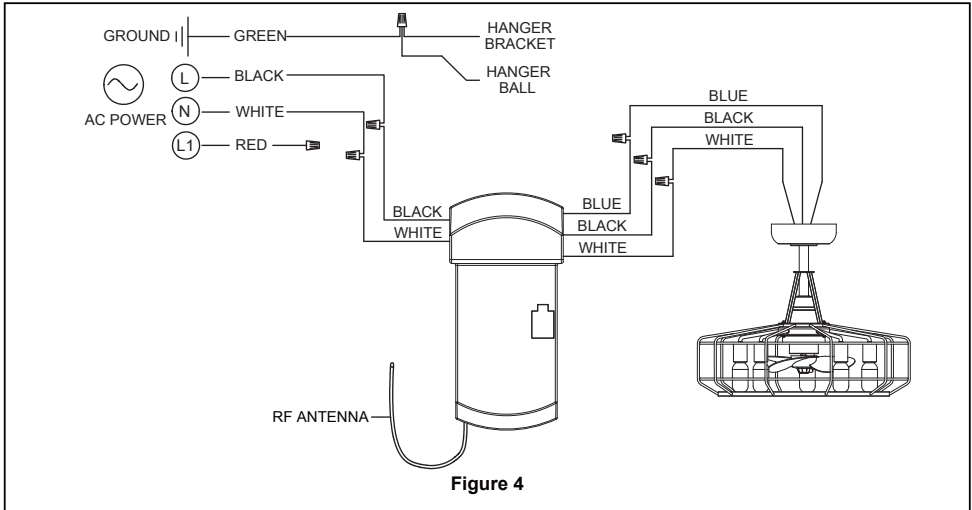

Figure 4
3. Connect green wires from hanger bracket and downrod to bare (ground) wire using wire connector. Connect black wire from receiver unit marked "AC IN L" to black supply wire using wire connector. Connect white wire from receiver unit marked "AC IN N" to white supply wire using wire connector. Connect white wire from receiver unit marked "TO MOTOR N" to white wire from fan using wire connector supplied with receiver unit. Connect black wire from receiver unit marked "TO MOTOR L" to black wire from fan using wire connector supplied with receiver unit. Lastly, connect blue wire from receiver unit to the blue fan light wire using wire connector supplied with receiver unit. Securely enclose the red supply wire with wire connector. (Figure 4)